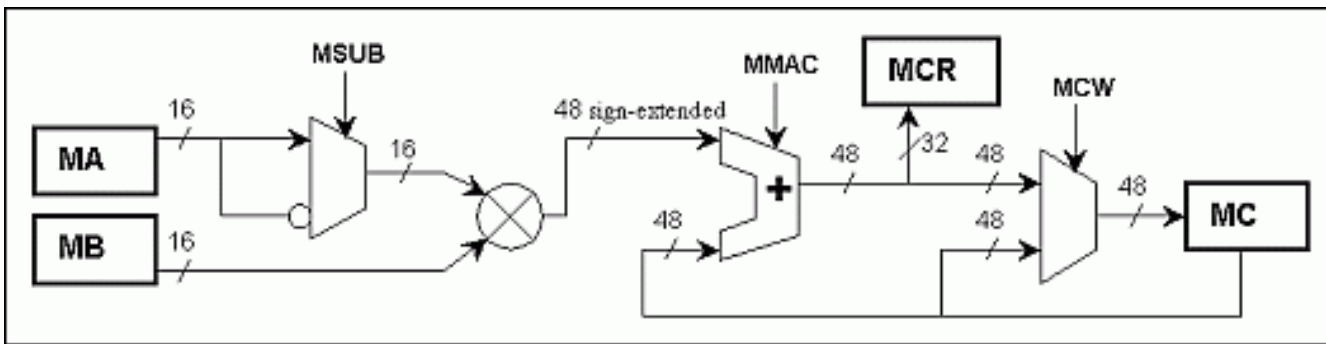

Figure 2. Multiplier operation data flow.
where n is the execution cycle, MMAC is accumulation flag (0 or 1), MSUB is negation flag (0 or 1) in the MCNT register. The MCR register keeps only 32 low bits of the right-hand side of the equation (2), but it gets updated immediately at execution cycle n. The MC register keeps a full length of the result, extended with OF bit if necessary, but both MC and OF get updated 1 cycle later. The data flow in the multiplier during operation is shown on the **Figure 2**.